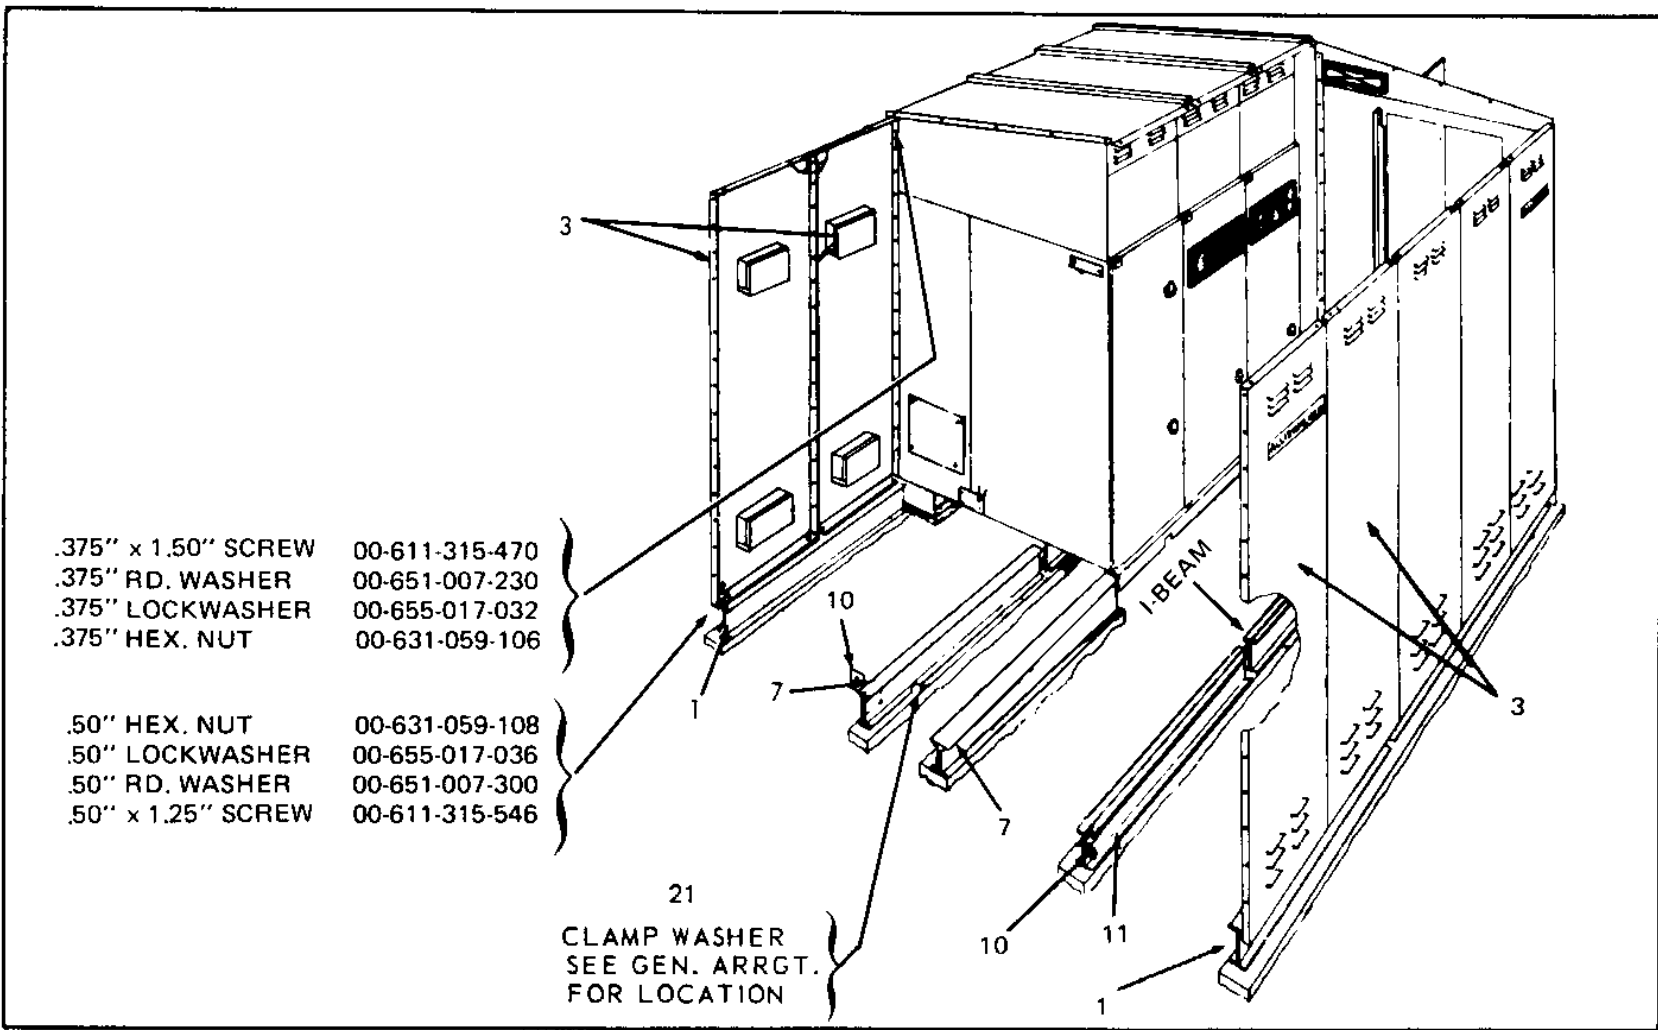

Figure 37. Beam Placement (5KV) – Single Aisle with Work Space
5. See Figure 37. Put the work aisle and work space beams (1, 7 and 11) in position as indicated on the general arrangement drawing.
6. Assemble aisle walls (3). See general arrangement drawing for location of special panels for fans, etc. Apply .50-inch sealant tape at the joints of the wall sections.